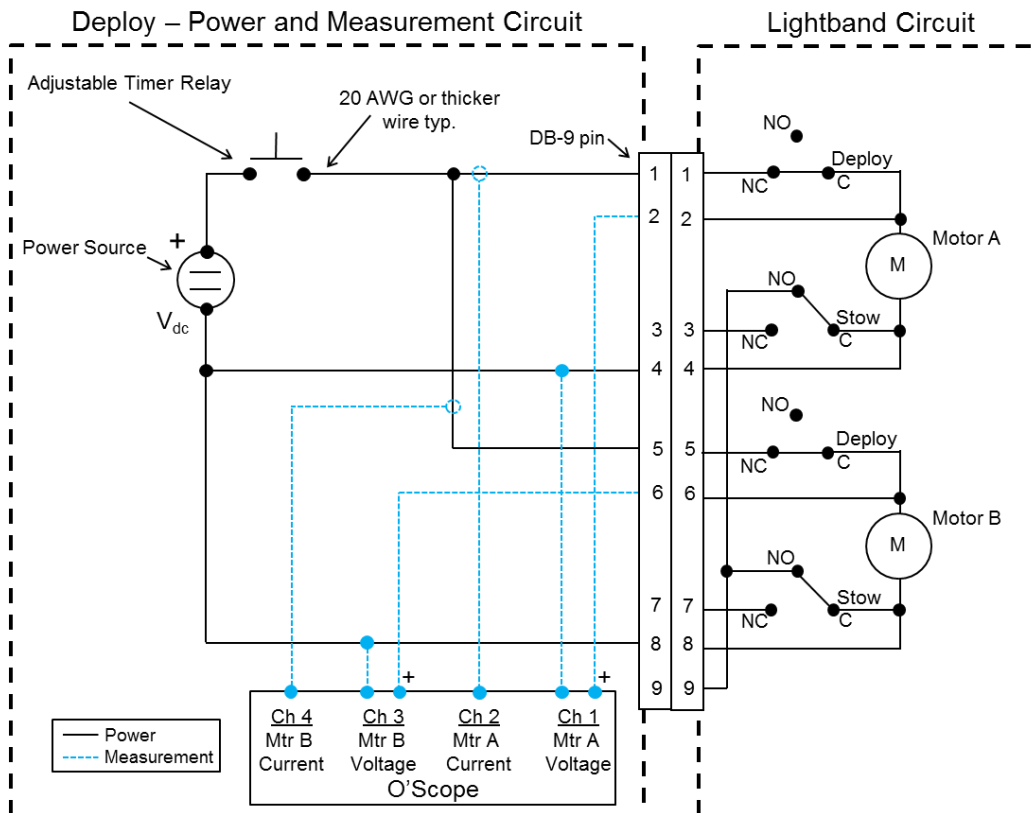

Figure 30: Deploy Circuit
9.1.11	Remove the 'Deploy – Test Circuit' and connect the Lightband to the 'Deploy – Power and Measurement Circuit' per Figure 30. Do not apply power to the Lightband.